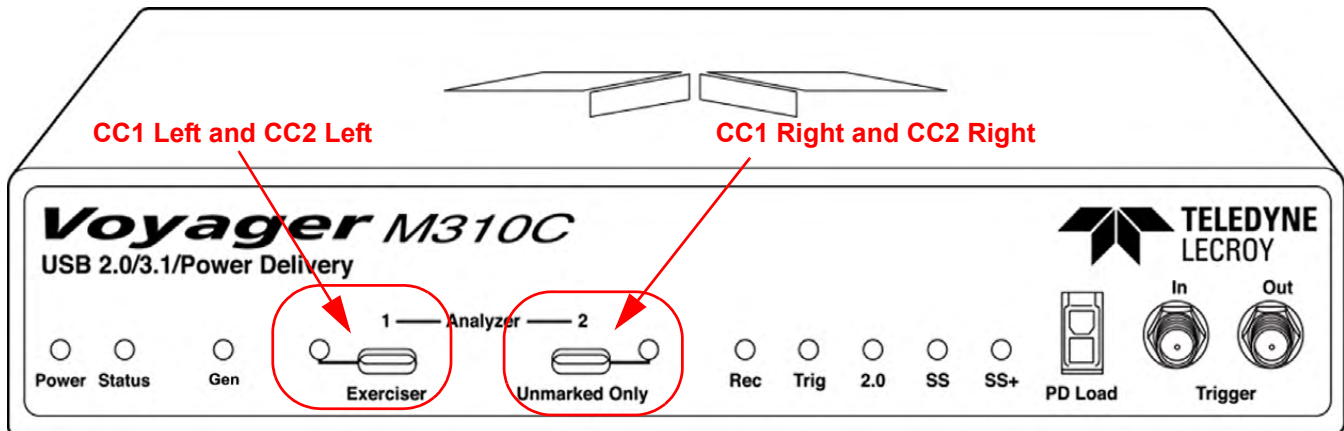

Figure 9.56: Voyager M310C: Front Panel View
The USB Type C cable supports two Configuration Channel (CC) pins: CC1 and CC2. The Voyager M310C has two Type C connections: one on the left of the front panel (Connector 1) and one to the right (Connector 2). See Figure 9.56.